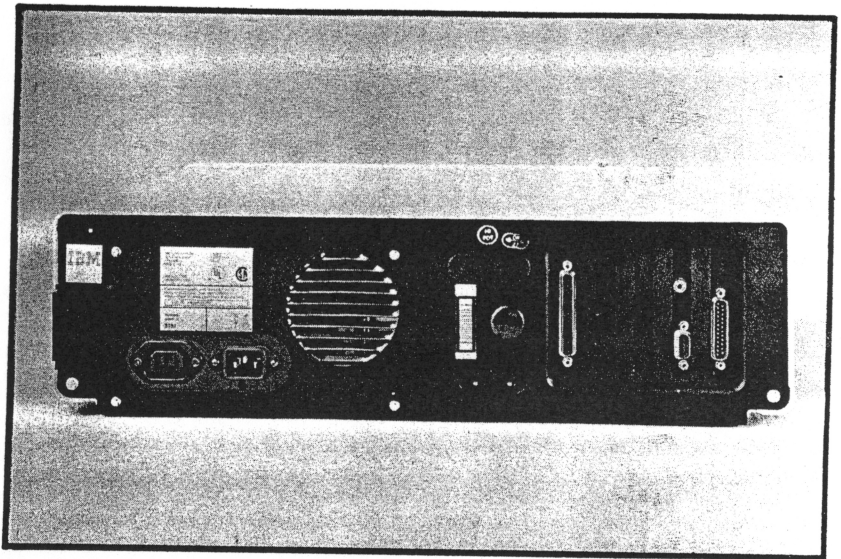
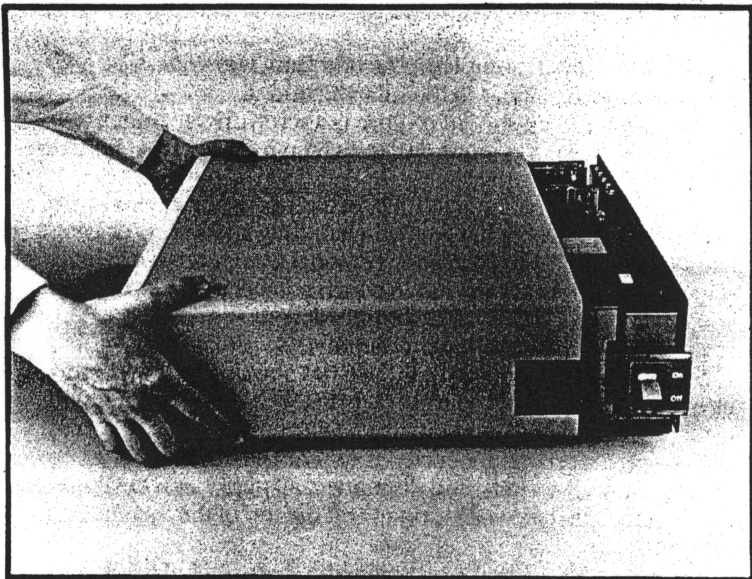

Figure 1
Figure 2
*Getting a Slot:* Address yourself to the rear panel of the System Unit. There you'll find the two screws that hold its cover in place (Figure 1). Remove these, then remove the cover by sliding it forward (toward the front of the unit) and then up (Figures 2 and 3).